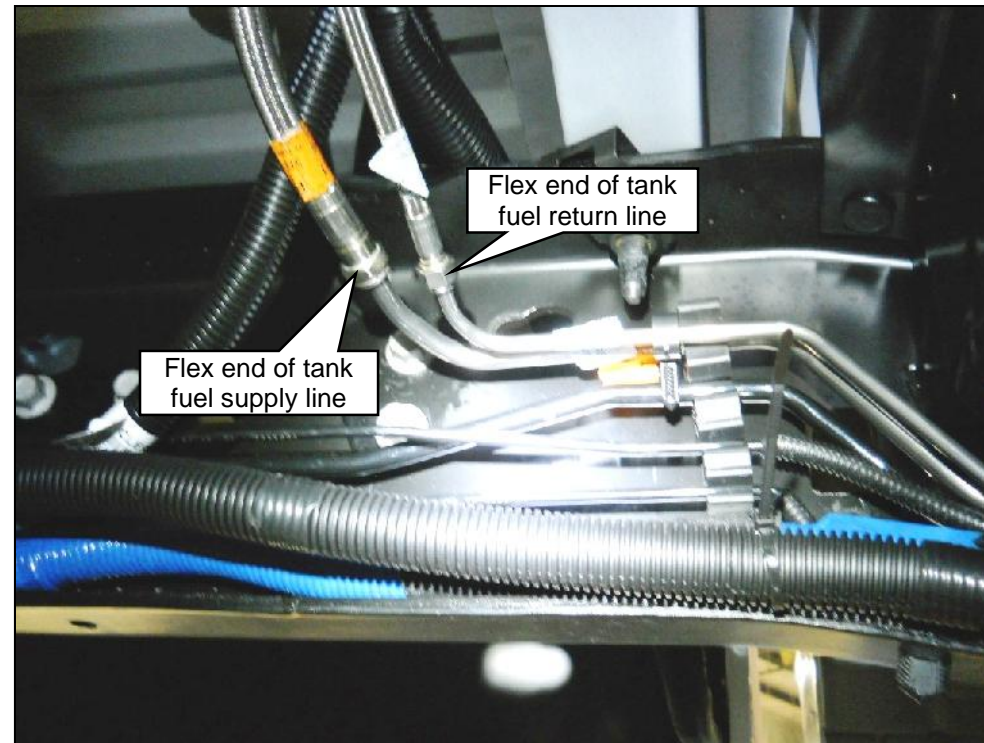

Figure 20.1
2. Connect the flex portion of the tank fuel supply line to the fuel supply line on the frame rail with the quick-connect fitting. **Figure 20.1.**
3. Connect the flex portion of the tank fuel return line to the fuel return line on the frame rail with the quick-connect fitting. **Figure 20.1.**